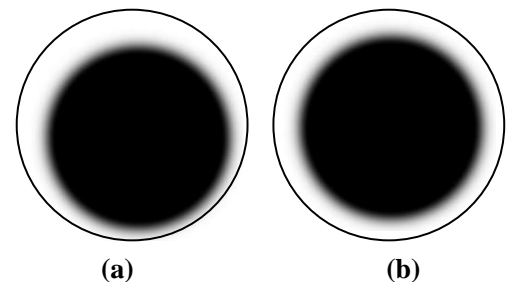

Fig. 10
- Turn the condenser focus knob to lower the condenser till a dark spot showed in the viewing field as shown in **Fig. 10 (a)**.
- Turn the condenser translational centering screws to move the dark spot to the center as shown in **Fig. 10 (b)**.